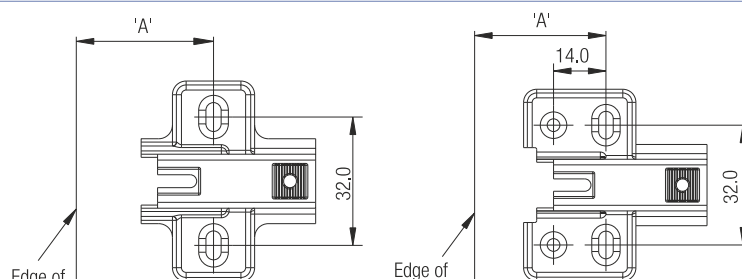

Fig.2
3. Mark hole in the cabinet for mounting plate as per Fig. 2 and screw on the mounting plate.